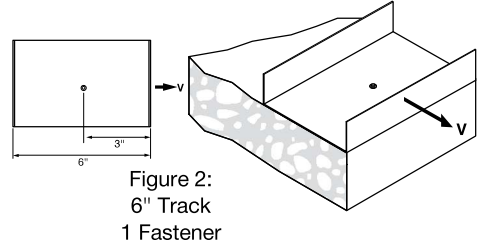
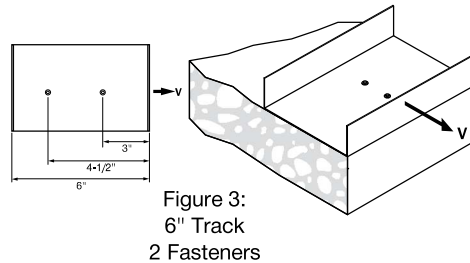

Figure 2:
Figure 3:
- 3 The steel deck profile for the 1-1/2" deep composite floor deck has a minimum thickness of 20 gauge (0.0358") and a minimum Fy = 33 ksi. Lower flute and upper flute widths must be a minimum of 1-3/4" and 3-1/2", respectively. This deck may also be inverted as shown in Figure 3 in Section 3.2.1.6. Figures 2 and 3 in Section 3.2.1.6 show the nominal flute dimensions, fastener locations and load orientations for the deck profile. Structural lightweight concrete fill above top of steel deck must be minimum 2-1/2".